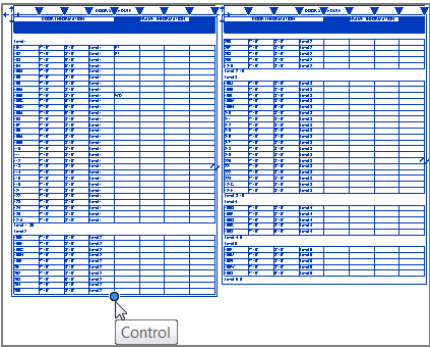

FIGURE 11.19: You can make further adjustments to the schedule by picking the round blue grip.
- 6. With the schedule split in two, you can see that it fits onto the sheet quite nicely. With the schedule still selected, notice the blue grip at the lower left, as shown in Figure 11.19. Pick the grip and drag. You can slide the schedule so that the length of each side adjusts up and down evenly.